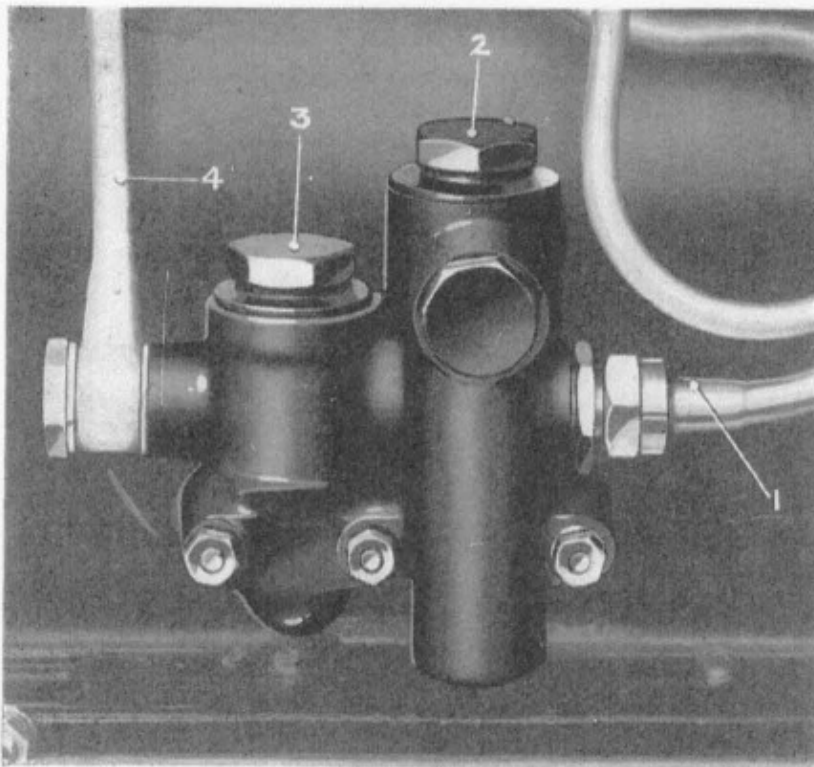

Fig. 8.—OIL RELIEF VALVES.
A drilling through the casting conveys oil to a double relief valve located in an accessible position on the right-hand side of the crankcase. (See Fig. 8.)
Oil passing the high-pressure valve (3, Fig. 8) enters the low-pressure chamber, and from there via pipe (4) to the inlet valve rocker shaft.
If it should be suspected that the relief valves are not working properly, they can be inspected by removing the plugs (3), above the high-pressure valve, and (2), above the low-pressure valve (Fig. 8).
The centre pedestal of the inlet valve rocker shaft is drilled and communicates through an oil hole in the head with a union on the right-hand side, to which pipe (4, Fig. 8) is connected.